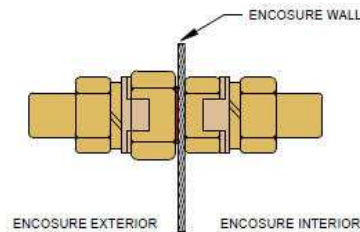

Figure 1
- 14) When the internal/external earth stud is supplied loose, the components should be fitted as per the below Figure 1.